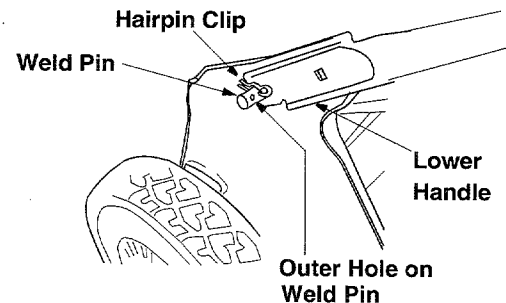

Figure 3
- Remove the hairpin clip from the outer hole of the weld pin. See Figure 3.
- Insert the hairpin clip into the inner hole in the weld pin. See Figure 3. Repeat on other side.